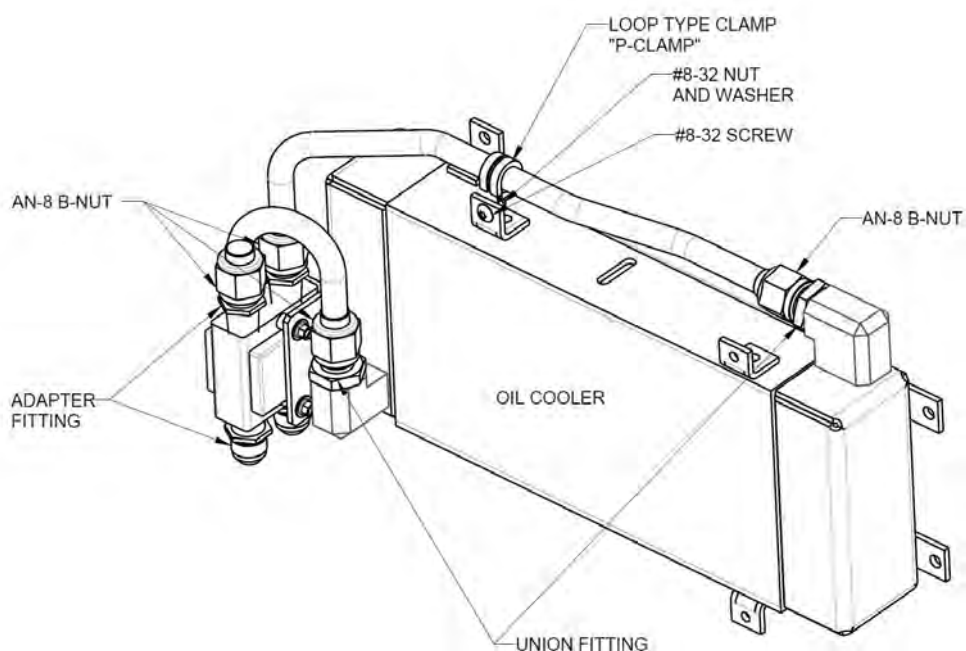

FIGURE 17-46
7. Use a 13/16 wrench to hold the Adapter Fitting and a 7/8 wrench to turn the AN-8 B-nut to remove the aluminum Thermostat-Oil Cooler Line from the Thermostat. (See Figure 17-46.)
8. Install the P-clamp as shown in Figure 17-46. Torque hardware to 20 in-lbs.